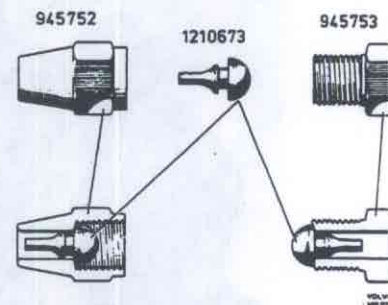

Fig. 46-76. Sealing nipples
4. Remove the brake lines from the brake hoses. Plug the hoses with sealing nipples, see Fig. 46-76 for a suitable nipple, Volvo part nos. 945752 + 1210673. Remove the bracket with hoses from the wheel carrier housing.